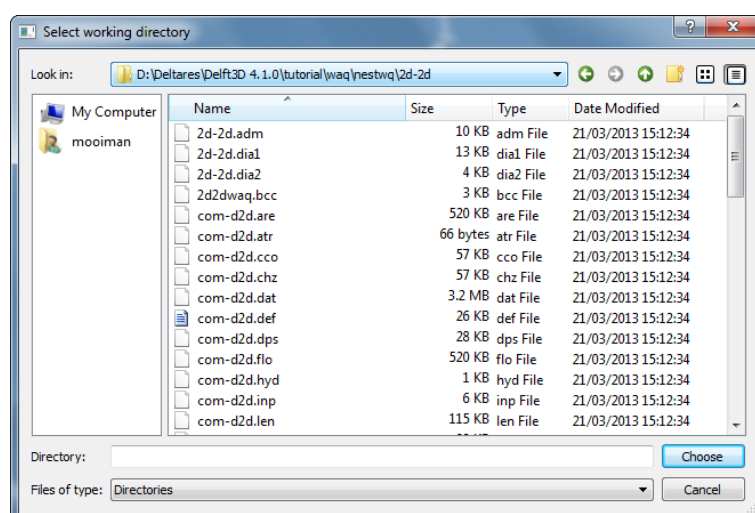

Figure 3.5: Select working directory window to set the working directory to <waq\nestwq\2d-2d>
- ◇ Enter the <2d-2d> sub-directory and close the **Select working directory** window by clicking OK, see Figure 3.5.